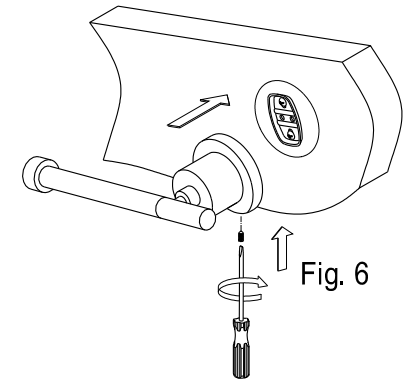

Fig. 6
- Step 7. Place the unit, with the small hole in the base underneath, over the mounting plate by tightening the slotted set screws with a flat head screwdriver until the base is tightly fixed (fig 6).
- Step 6. Place the unit, with the small hole in the base underneath, over the mounting plate by tightening the slotted set screw with a flathead screwdriver until the base is tightly fixed (fig 6).
- Step 6. Place the unit, with the small hole in the base underneath, over the mounting plate by tightening the slotted set screws with a flat head screwdriver until the base is tightly fixed (fig 6).